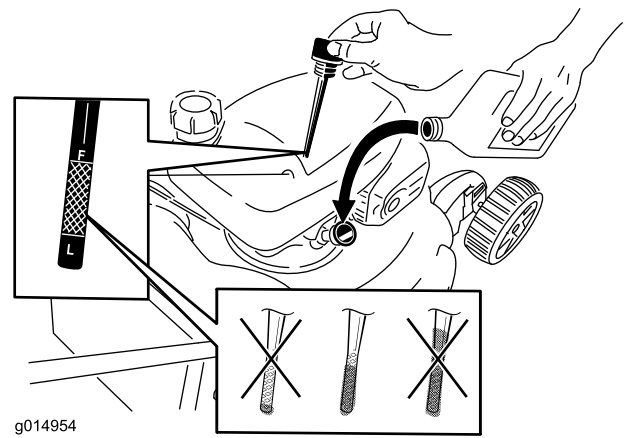

Figure 39
6. Remove the dipstick from the oil-fill tube (Figure 39).
12. Remove the dipstick and read the oil level; refer to Figure 39.
- If the oil level is too low, add a small amount of oil slowly to the oil-fill tube, and then repeat steps 10 through 12 until the oil level is correct as shown in Figure 39.